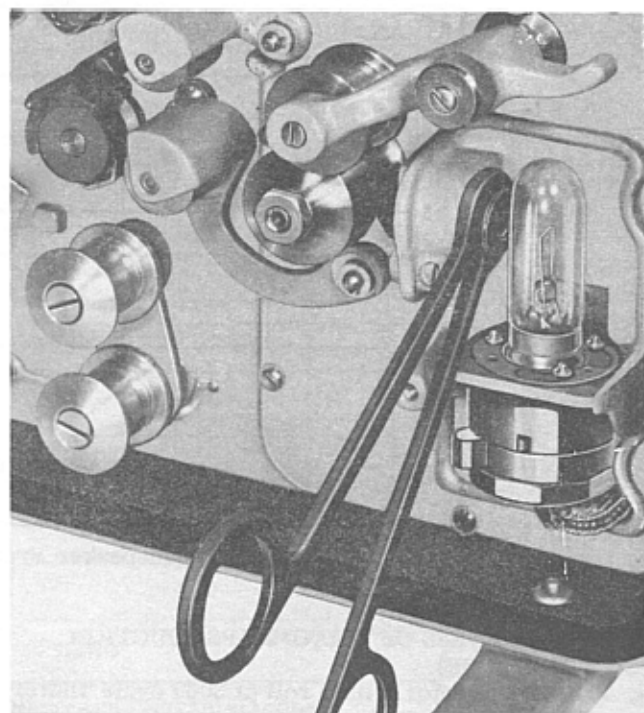

Figure 3-6. Focusing the Scanning Lens
a. Thread projector with a loop of precision type (7000 cycle) film for scanning beam focusing and azimuth adjustment. Emulsion side of film should face the exciter lamp. Replace loudspeaker with an 8-ohm non-inductive resistor. Connect oscilloscope across the output circuit of amplifier. Remove exciter lamp cover and exciter lamp. Place the sound optical unit adjustment tool (Tool No. 061000-F1, figure 2-1) over the sound optical unit as shown in figure 3-6. Remount the exciter lamp in its socket.
d. When the sound optical unit is properly adjusted, tighten fillister head screw (4, figure 3-6) carefully, and make sure that the reading on the meter does not decrease during the process.